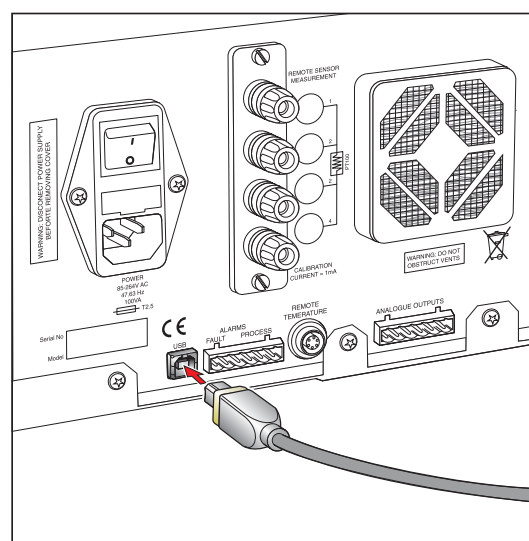

Figure 12 *USB Port Connection*
1. Check the orientation of the connector and gently push it into the socket labelled **USB** (see *Figure 12*).